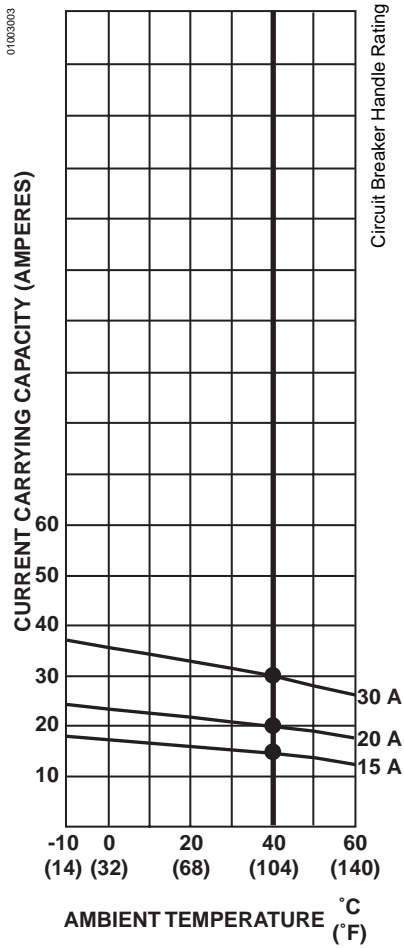

Figure 4: QOT Circuit Breakers
By properly applying an appropriate ambient rerating curve (see Figs. 4–27 on pages 5–12), a circuit breaker's current carrying capacity at various temperatures can be predicted.
1. Choose the ambient rerating curve for the circuit breaker family involved (see Figs. 4–27 on pages 5–12).